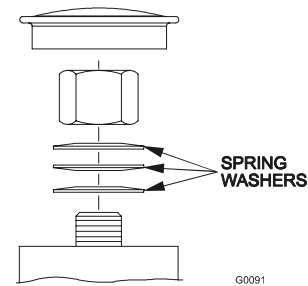

FIGURE 18
- a) Remove dust cap from caster and tighten nyloc nut until washers are flat and back off 1/4 of a turn to properly set the pre-load on the bearings. If disassembled, make sure the spring washers are reinstalled as shown in Figure 18.